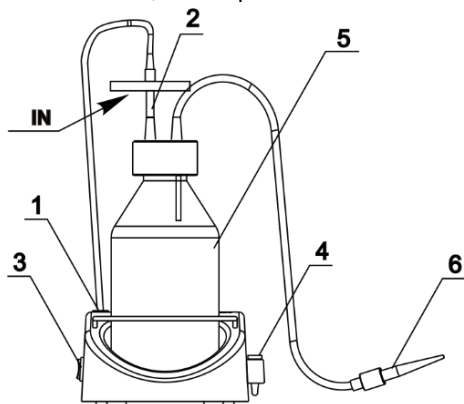
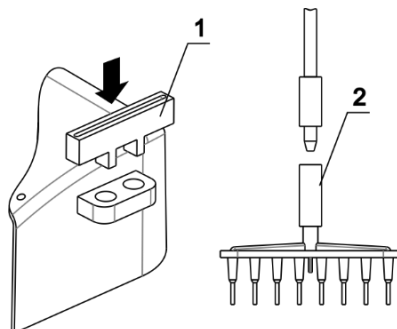

Figure 1. Assembled FTA-1
Figure 2. Installation of MA-8 aspiration tip
- Install the trapping flask (fig. 1/5) on the unit.
- Assemble the lid, aspiration tubing and filter set (fig. 1/2). Attach aspiration tip (fig. 1/6) to the tubing.
Caution! Position the filter with the **IN** marking pointing towards the unit (fig. 1/2).
- Connect the filter tubing to the pump (fig. 1/1) located at the top of the base behind the trap flask, by turning the fitting clockwise.
- Place the microtubes for aspiration tip into the holder (fig. 1/4).
Remove microtubes and aspiration tip from the holder (fig. 1/4). Place MA-8 storing holder (fig. 2/1) into the holder. Remove aspiration tip (fig. 1/6) from the aspiration tubing and connect the **MA-8** aspiration tip (fig. 2/2). Store the aspiration tip in the new holder.
- 5.2. Turn the **Power** switch (fig. 1/3 or 7/2) to the position **I** (on). The pump starts working.
- 5.4. Touch the surface of the liquid with the aspiration tip (fig. 1/6, 5/1 or **MA-8**) to remove the liquid.